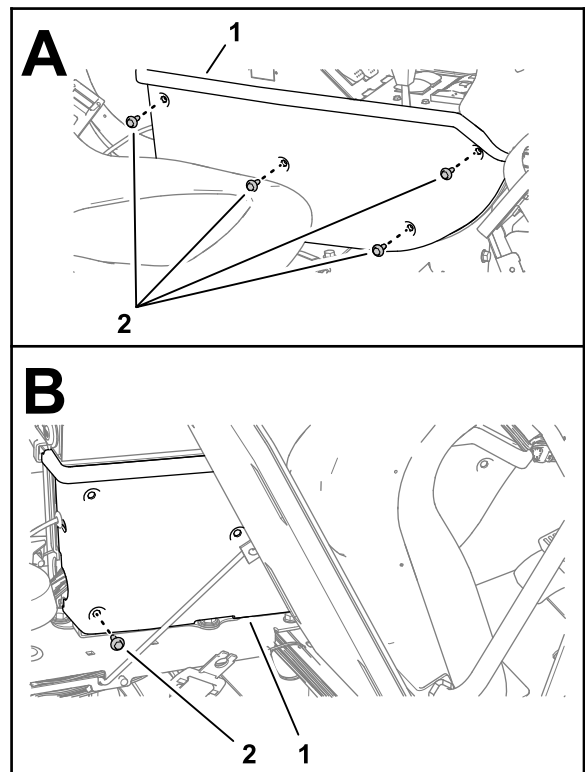

Figure 174
2. Remove 4 flange-head capscrews (1/4 x 3/4 inch) that secure the side panel of the center console as shown in Figure 174.
3. Tilt the passenger seat forward, and remove the lower rear flange-head capscrew (Figure 174).